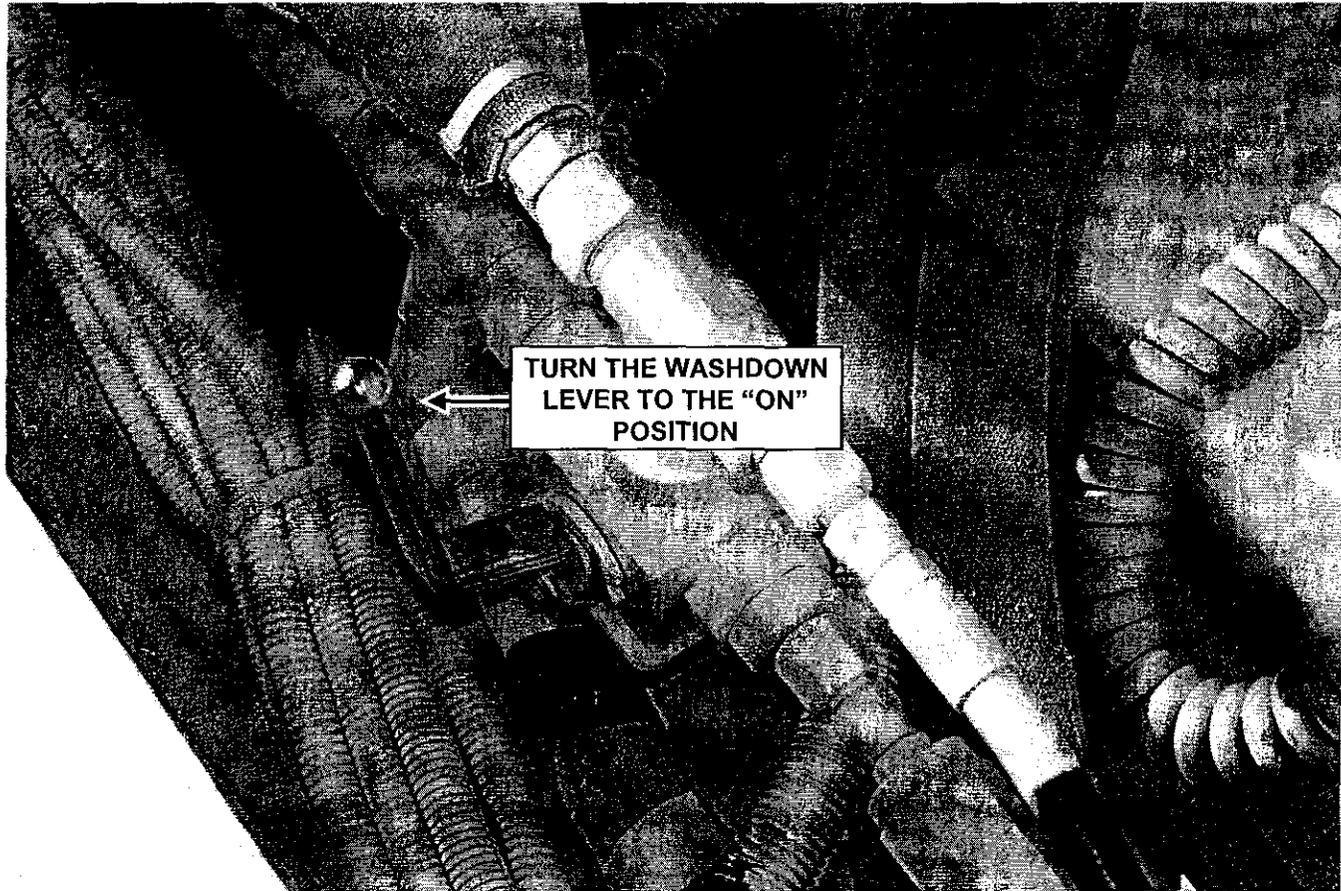

FIGURE 44
10. Turn the washdown on/off lever to the on position (figure 44). By doing this all auxiliary system pressure will be diverted to the washdown pump so that the washdown system may be able to produce the maximum amount of water pressure.